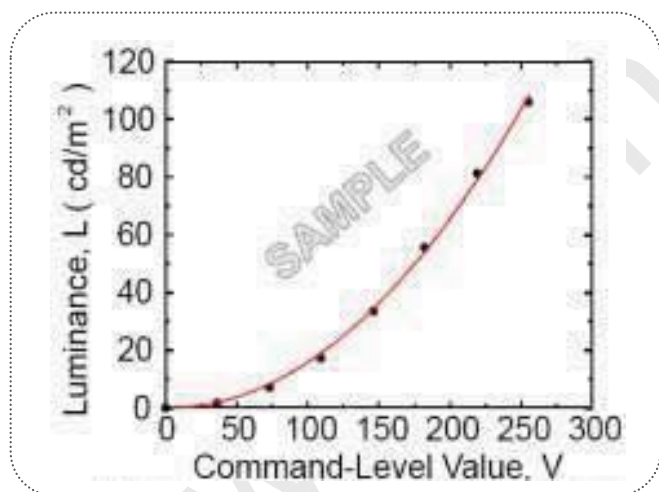
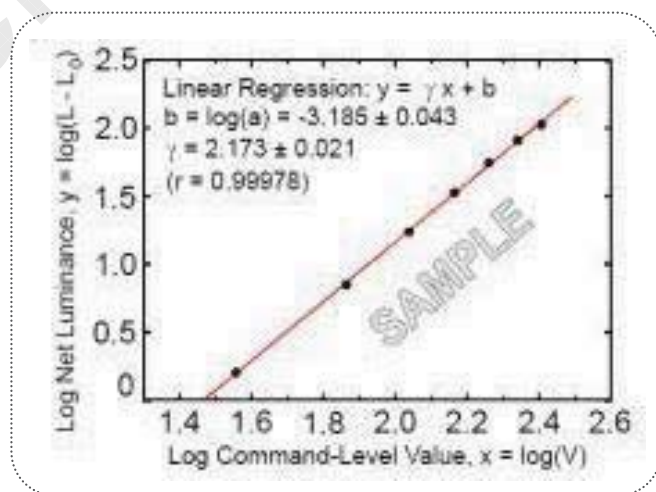

FIG. 7 Sample Luminance vs. gray scale
FIG. 8 Sample Log-log plot of
8. Effective viewing angle is the angle at which the gamma shift of gray scale is lower than 0.3. For more information see FIG 7 and FIG 8.
The GAMMA we calculate from the log-log representation (FIG. 8)